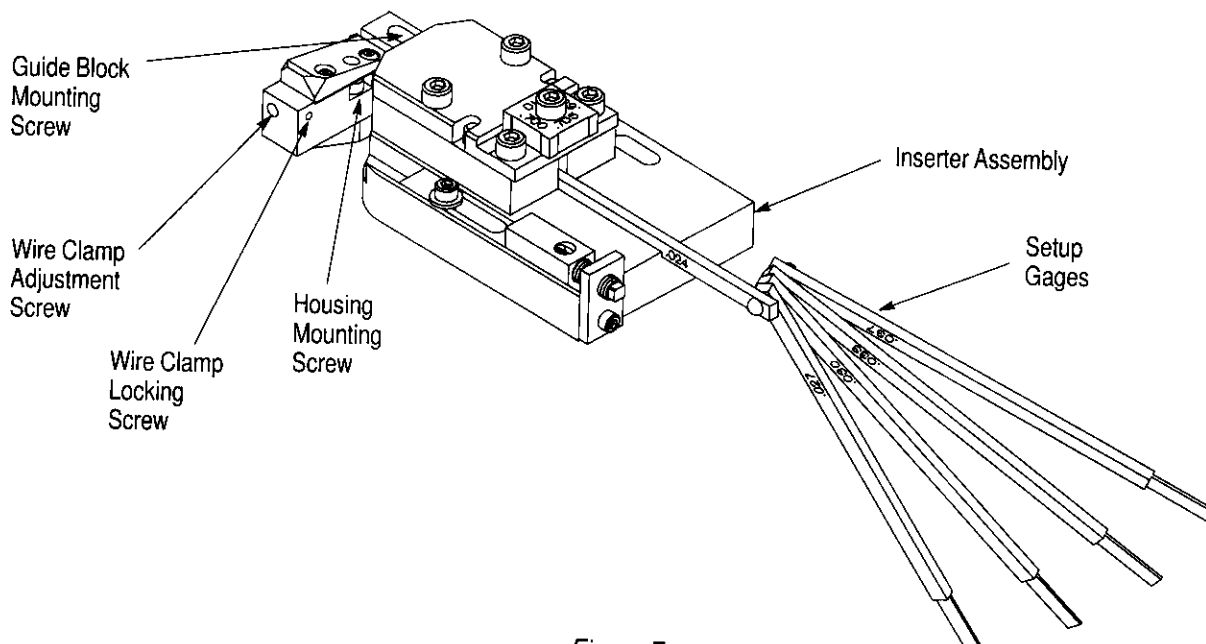

Figure 7
- Locate the setup gage that is the same size as, or that is one size larger than, the measured wire. Insert the setup gage into the inserter assembly until the gage bottoms against the guide block. Refer to Figure 7.
D. Wire Clamp Force (Figure 7)